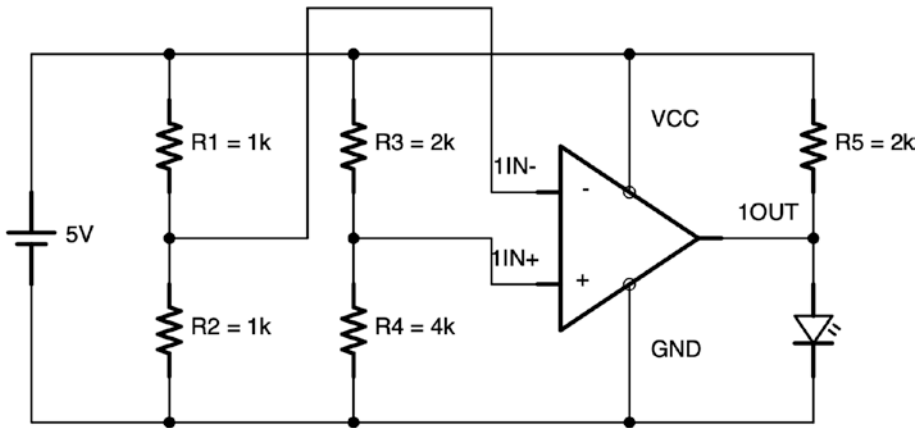

Figure 11-5. *A Simple Comparator Circuit*
The circuit we are discussing is shown in Figure 11-5. Can you identify the resistor circuit patterns? Take a minute and see if you can find some. Note that the wire coming out of 1IN- crosses two wires that it is *not* joined with.
What we will do is to take the circuit given in Figure 11-5 and modify R4 to be our photoresistor and R3 to be a fixed resistor. In my own testing, I discovered that the light/dark switchover point for my photoresistor was about 15 k Ω . Therefore, I am going to use a 15 k Ω resistor as the fixed resistor for R3. Yours may need to vary based on your experimentation with your photoresistor.
1. Calculate the amount of current flowing through each element of the circuit in Figure 11-5. You can presume that the LM393 uses about 1 mA for its own (internal) operation and that the LED is a red, 1.8 V LED. What is the total amount of current used by the circuit?
2. Take the circuit in Figure 11-5 and swap which voltage divider is attached to 1IN+ and 1IN-. Now calculate the total amount of current used by this circuit.